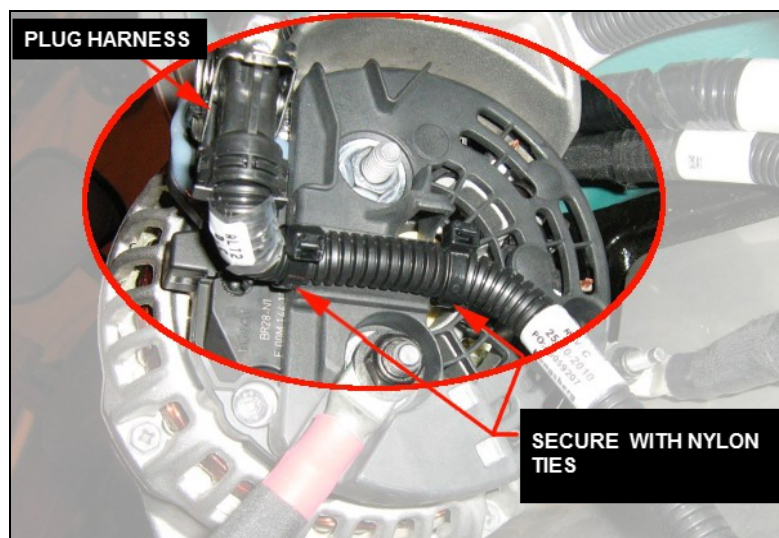

FIGURE 31
18. Plug lower alternator harness onto lower alternator connector and secure using two nylon cable ties #504637 (**FIGURE 31**).